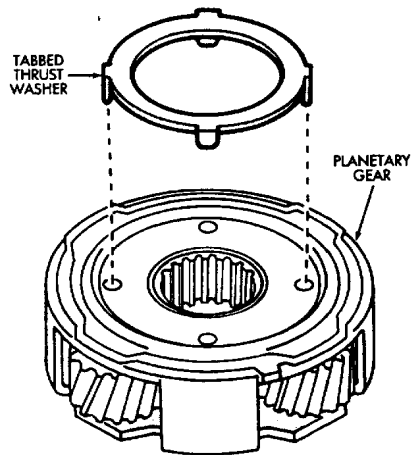

Fig. 3 Installing Front Planetary Thrust Race
(4) Turn planetary over and install race thrust race (Fig. 3).